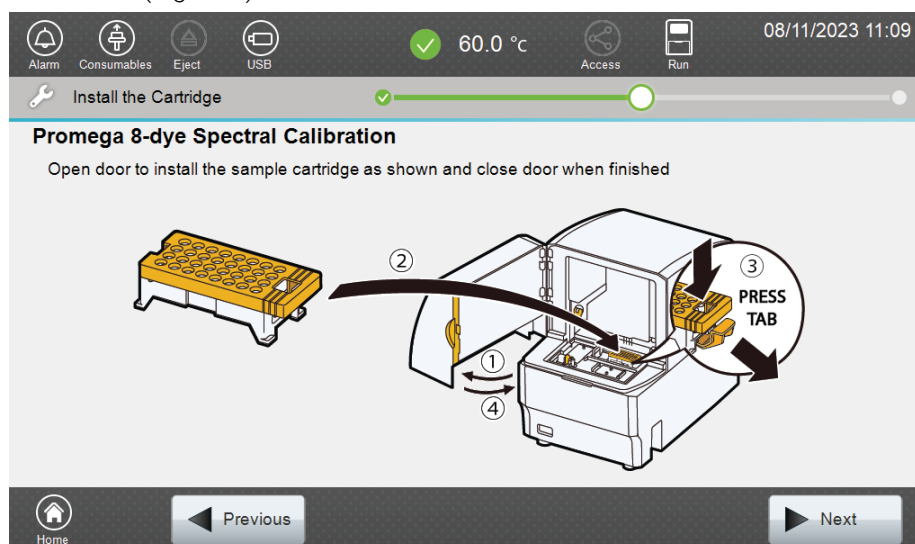

Figure 8. 'Install the Cartridge' screen.
6. Open the front door of the Spectrum Compact CE System and mount the sample cartridge on the autosampler by following the instructions displayed on the 'Install the Cartridge' screen (Figure 8).